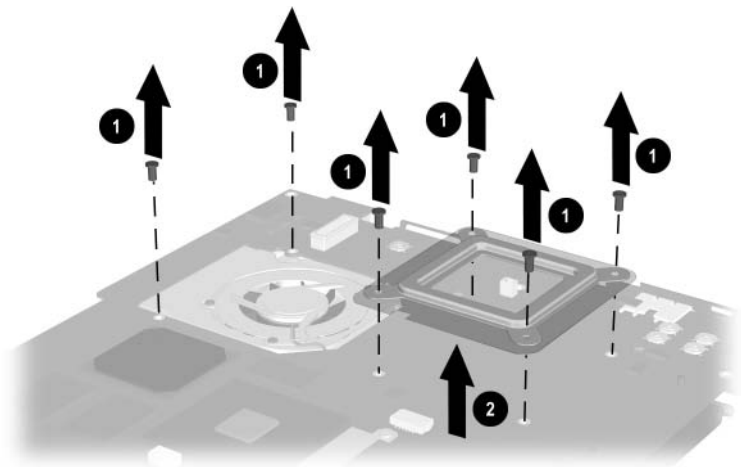

Figure 5-32. Removing the Heat Sink Screws
5. Remove the six PM2.0 $\times$ 4.0 screws ❶ that secure the processor mounting bracket and heat sink to the system board (Figure 5-32).
6. Remove the processor mounting bracket ❷.